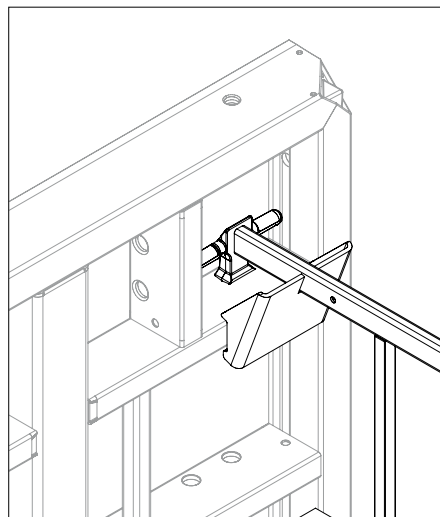

Fig. A7.03
- Horizontal panel struts (Fig. A7.03)